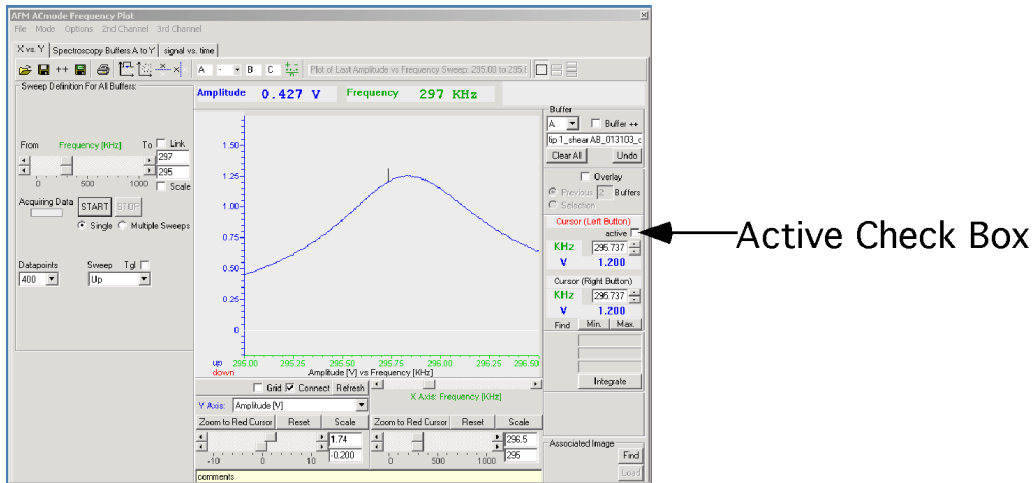

Figure 5.13
19. Check the **Active** check box in the Frequency plot window. See Figure 5.13 below.